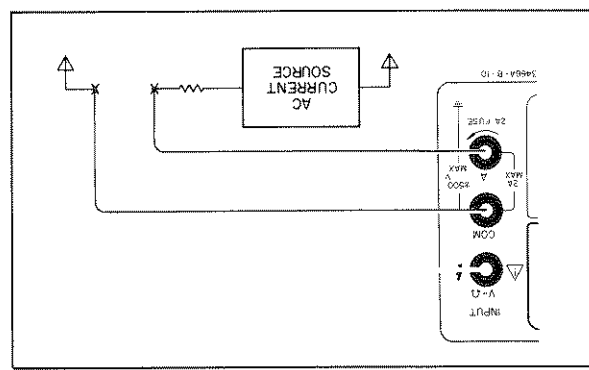

Figure 3-9. AC Current Measurement.
- c. Connect test leads from the Multimeter A and COM terminals in series with the current under test as shown in Figure 3-9.